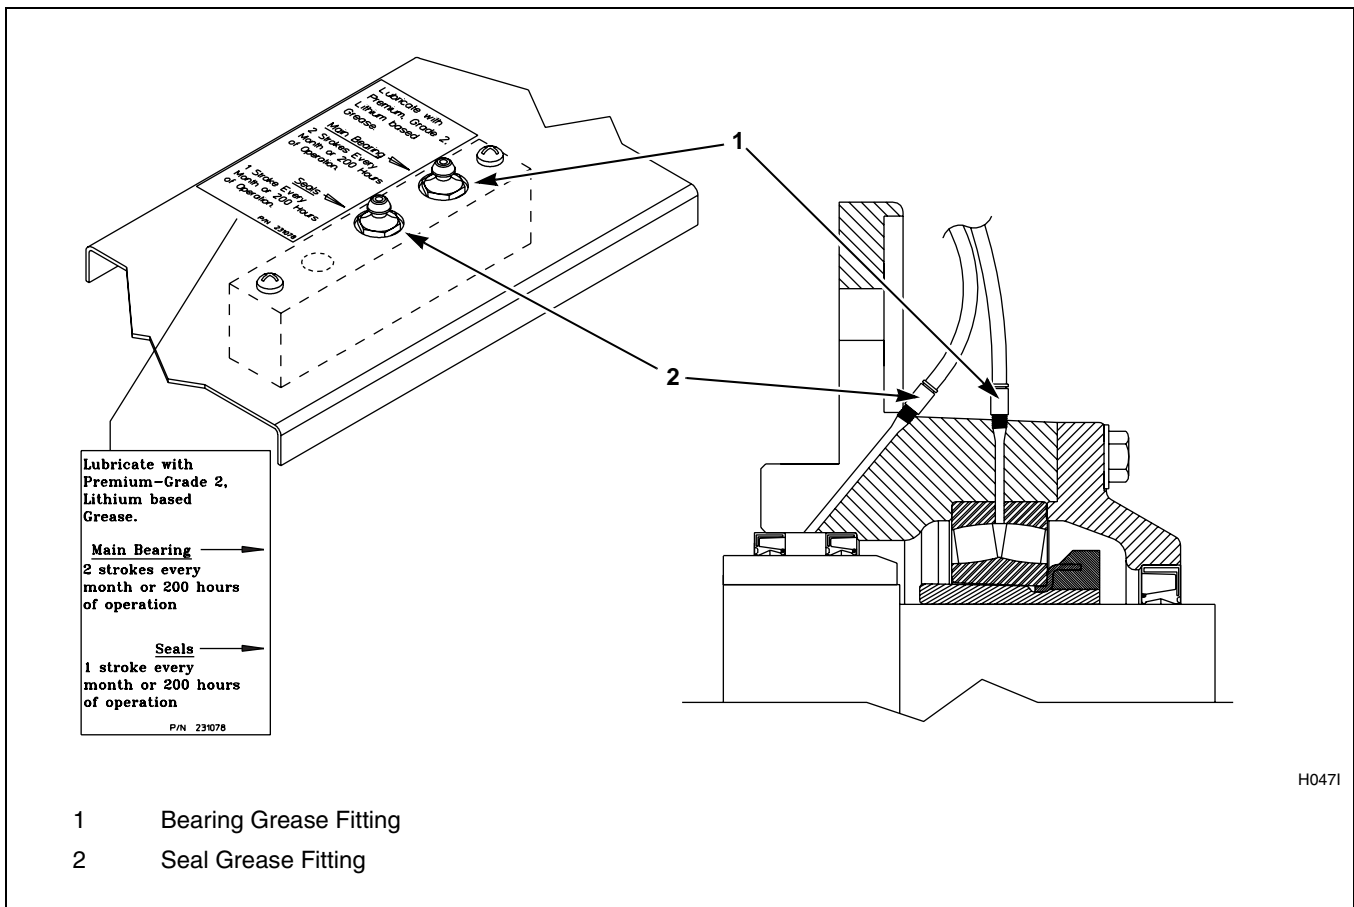

Figure 12
3. **For 80 pound capacity models only**, lubricate bearings and seals each month OR after every 200 hours of operation. Refer to *Figure 12*.